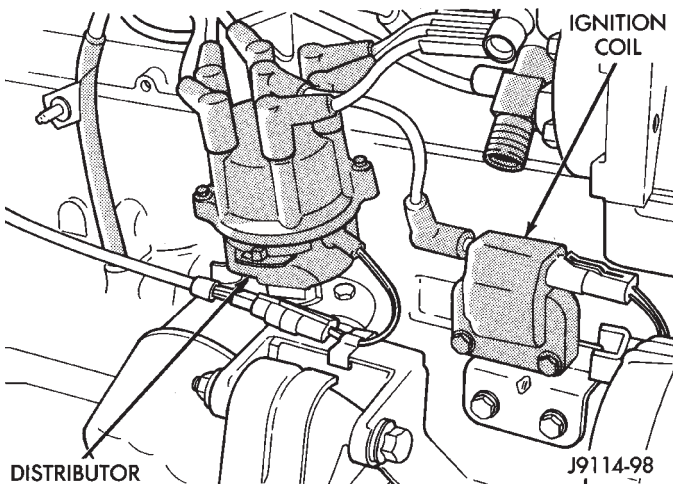

Fig. 3 Ignition Coil—Typical
(4) Inspect ignition coil connections. Look for bent or spread pins in the connector. Verify that coil secondary cable is firmly connected to coil (Fig. 3).
(5) Verify that distributor cap is correctly attached to distributor. Be sure that spark plug cables are firmly connected to the distributor cap and the spark